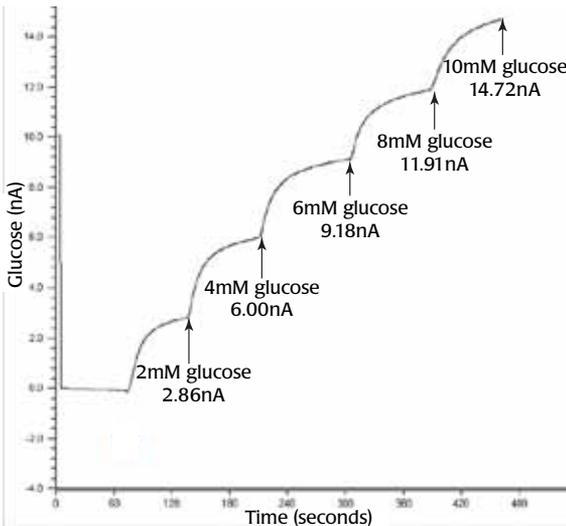

Fig. 3—Calibration plot showing five aliquots of 2M glucose injected into PBS solution
8. Repeat step 7 another three times. A typical calibration plot looks similar to the one shown in **Fig. 3**.